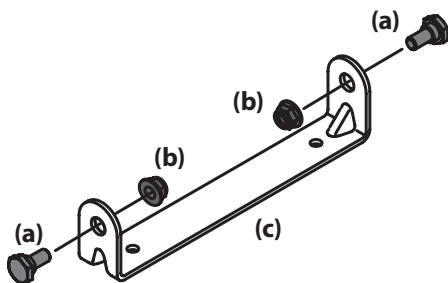

Figure 2-4
1. Remove the shoulder bolts (a) and lock nuts (b) from the seat mounting bracket (c) included in your hardware pack. See Figure 2-4.